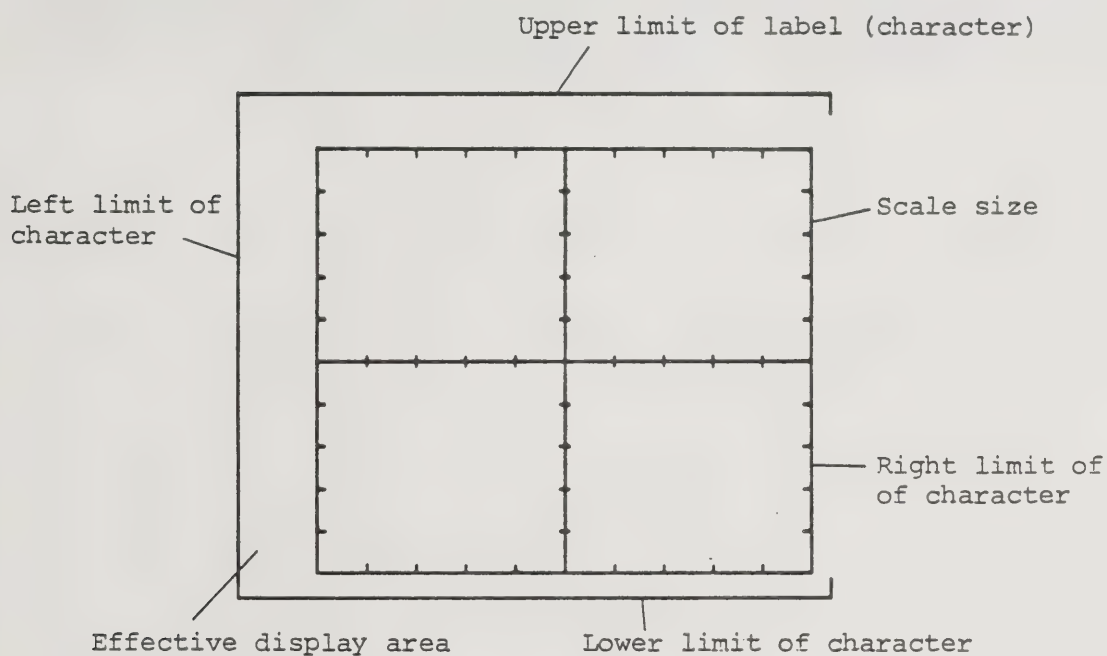

Fig. 11-7 Standard display scale (MPH-20803A)
- (3) Scale position adjustment
- (4) Character size and position adjustment
- (a) Place the standard pattern scale shown in Figure 11-7 (used for x-and y-axis adjustment) on the display screen.